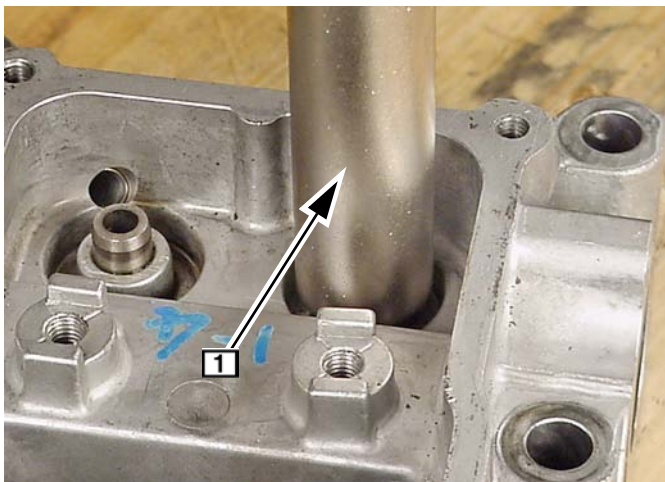

Fig. 85
1. Press in new valve guide using bushing driver, Tool #19416 **1**, Fig. 85.